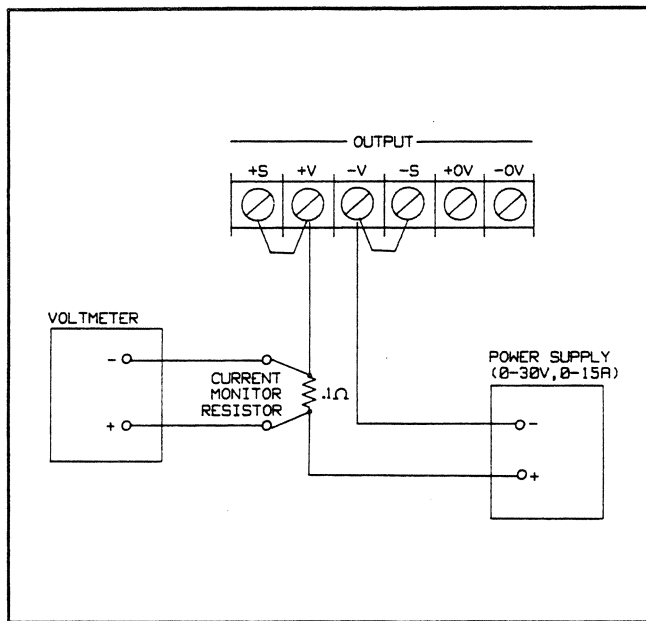

Figure 3-12. Negative Current Limit (-CC) Readback Accuracy
a. Turn off the supply and connect the output to be tested as shown in Figure 3-12.